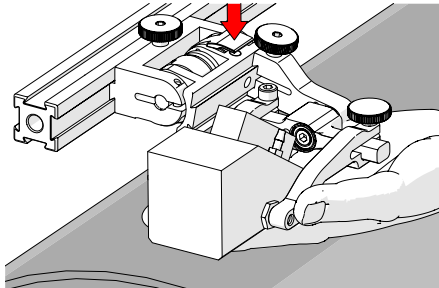

Fig. 123 - Lift and press latch button
3. Lift probe slightly and press latch button (Fig. 123) to apply spring pressure to the wedge.